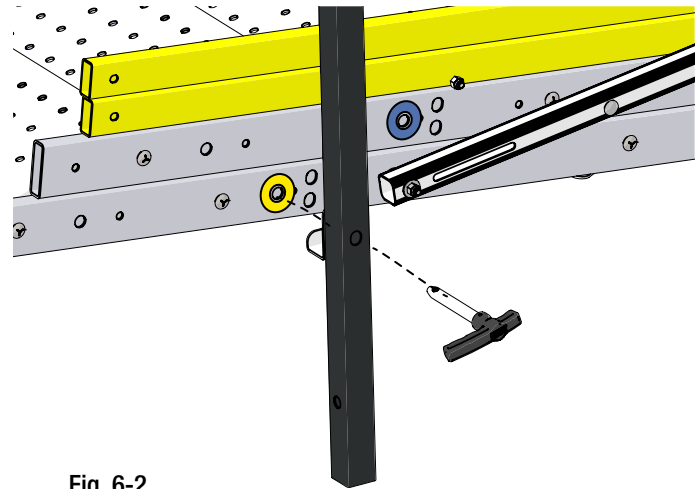

Fig. 6-2
- Insert the pull pin through the corner post and module as shown in Fig. 6-2.